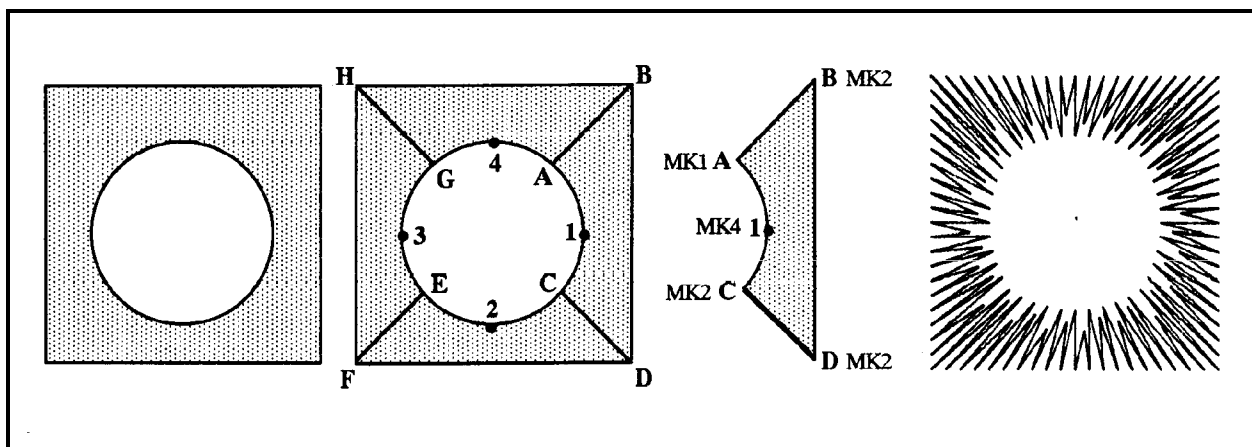

Figure 6-47
Another sample of curve smoothing is shown in Figure 6-47. Suppose you wanted to digitize column stitches in the shaded area of the shape shown at the left in Figure 6-47.
1. Plot the shape by dividing it into four similar sections as shown in the second from left illustration in Figure 6-47.
6. Continue this process until all four sections are digitized. You will get a result similar to the illustration at the right in Figure 6-47.